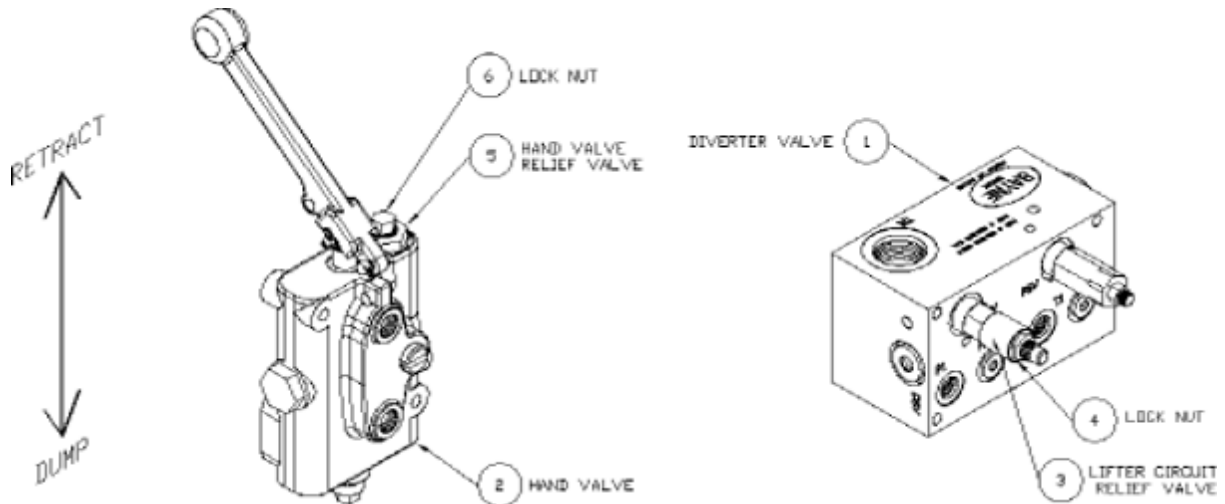
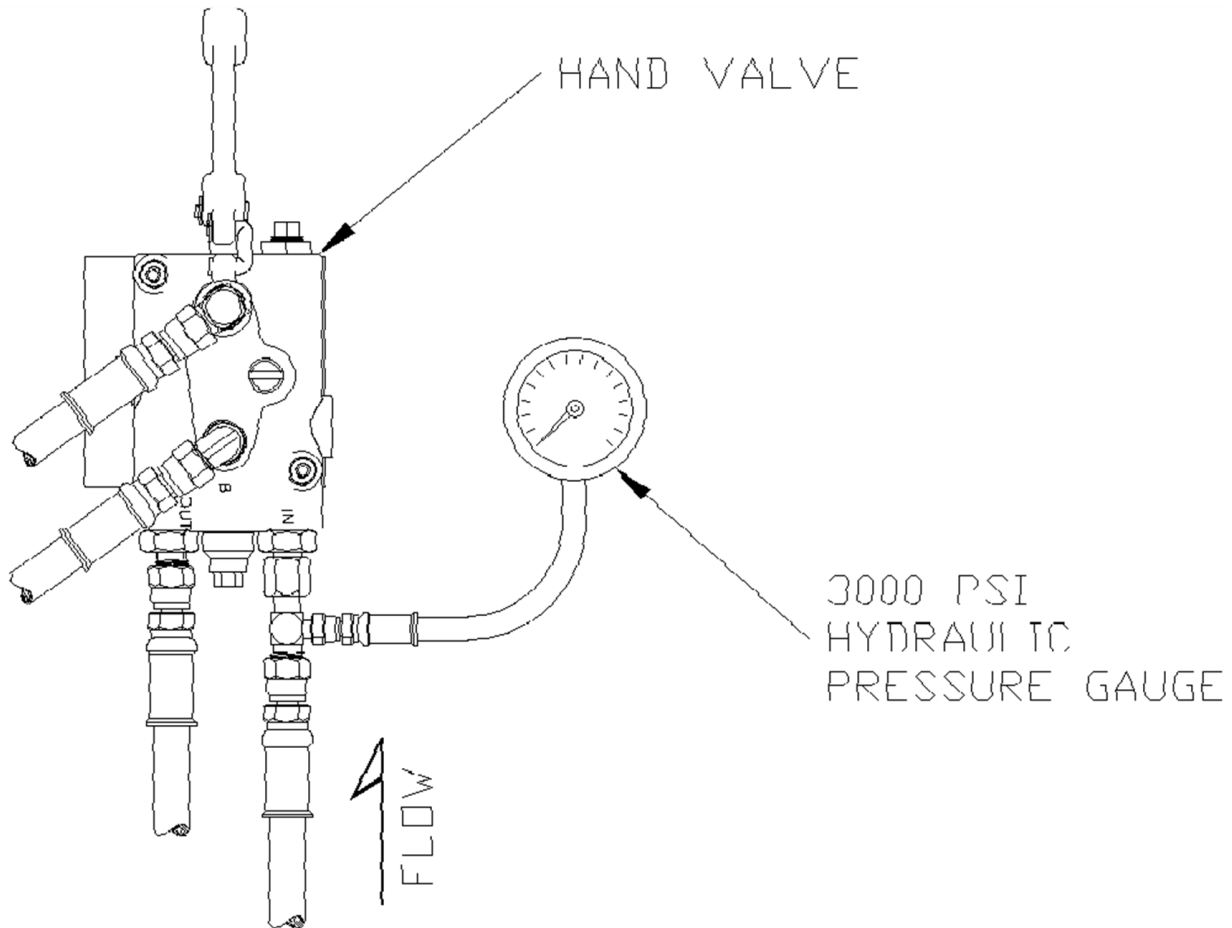

Figure I-4
Figure I-5
The diverter valve (1) (figure I-4) supplies the cart lifter hydraulic system with approximately 2 GPM of oil flow. This diverter valve is equipped with a full system relief valve (4) set at 2500 psi, to protect the truck's hydraulic system from any blockages that may occur down stream of the diverter valve. The diverter valve also includes a lifter circuit relief valve (3) set at 2300 psi, to prevent the diverter valve from shutting down if a blockage occurs in the lifter circuit. There is also a relief valve (5) set at 1800 psi in the hand valve (2) to protect the lifter from excessive pressure. These relief valves are preset from the factory to operate properly on most trucks with a system pressure between 2300 and 2500 psi without any adjustment. However, if any adjustment is necessary, follow these instructions.
2. Remove the cap nut(s) (8) (figure I-4) from the hand valve relief valve(s) (5) and turn the adjustment screw(s) clockwise until it bottoms out.
3. Loosen the lock nut (6) (figure I-4) on the lifter circuit relief valve (3) and turn the adjustment screw clockwise until it bottoms out.
4. Loosen the lock nut (7) (figure I-4) on the full system relief valve (4) and turn the adjustment screw counter-clockwise until it stops backing out.
7. Operate the handle on the hand valve (2) (figure I-4) back and forth a few times to bleed all air from the lifter hydraulic system.
- a) Have an assistant hold the handle on the hand valve (2) (figure I-4) in the "retract" position. If installing dual lifters hold the handle down on only one of the hand valves.
- b) Turn the pressure relief adjustment screw on the full system relief valve (4) clockwise until the pressure reading on the gauge is either 100 psi above truck system pressure, or if the pressure reaches a certain point and will not go any higher, set the adjustment screw 1/2 turn past that point.
11. Install the 3000 psi hydraulic pressure gauge with the necessary adapter in the hydraulic line connected to the "IN" port of the hand valve as shown in figure I-5. If installing dual lifters, install the hydraulic gauge at either one of the hand valves.
- a) Have an assistant hold the handle on the hand valve (2) (figure I-4) (with pressure gauge installed at the "IN" port) in the "retract" position to show pressure on the gauge.
- b) Turn the pressure relief adjusting screw on the lifter circuit relief valve (3) counter-clockwise until the pressure
a) Hold the handle on the hand valve (2) (figure I-4) (with pressure gauge installed at the "IN" port) in the "retract" position to show pressure on the gauge.
b) Turn the pressure relief adjusting screw on the hand valve relief valve (5) counter-clockwise until the pressure reading on the gauge is either 200 psi less than truck system pressure or 1800 psi, which ever is the lowest.
f) For dual lifters, install the hydraulic pressure gauge in the "IN" port of the other hand valve as shown in figure I-5, start the truck's engine, engage the hydraulic system, and repeat step 14.
15. Reinstall the cap nut(s) (8) (figure I-4) on the hand valve relief valve(s) (5) to secure the correct pressure setting(s).
16. Tighten the lock nut (7) (figure I-4) on the full system relief valve (4) to secure the correct pressure setting.
17. Tighten the lock nut (6) (figure I-4) on the lifter circuit relief valve (3) to secure the correct pressure setting.